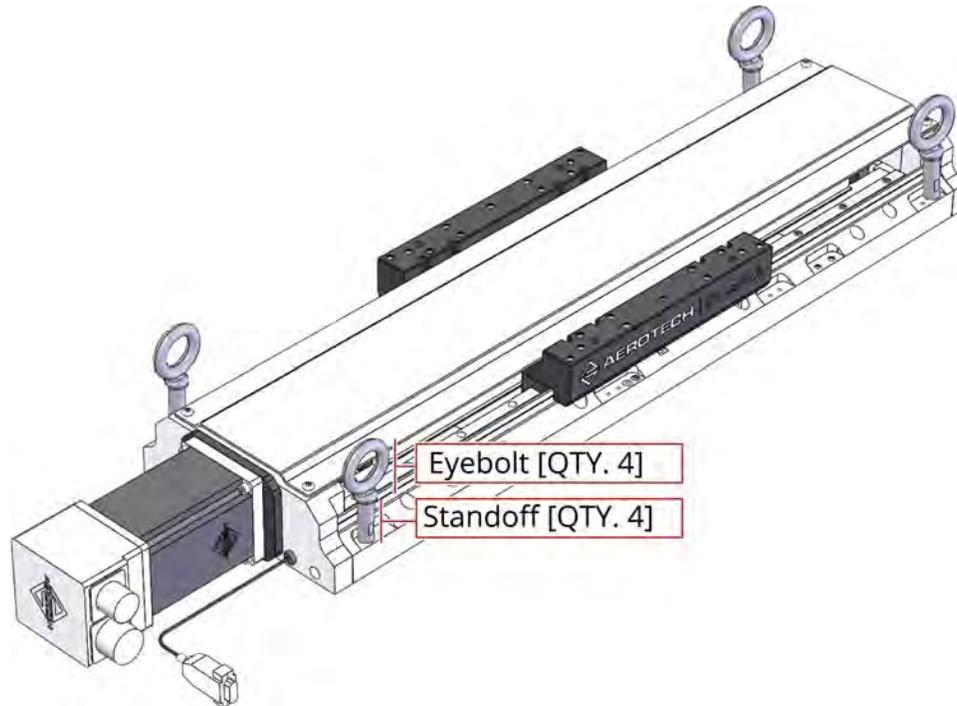

Figure 2-1: Lifting Features
- Use lifting hardware if it has been provided (refer to Figure 2-1).
The lifting kit includes four eyebolts and four standoffs. Thread the eyebolts onto the standoffs and thread the standoffs into the stage base. Remove the lifting hardware by turning a wrench on the flats of the standoffs (see Figure 2-1). If the stage is part of a multi-axis system, the lifting hardware should be attached to the lower axis. The lifting hardware must be removed before the stage can be operated.